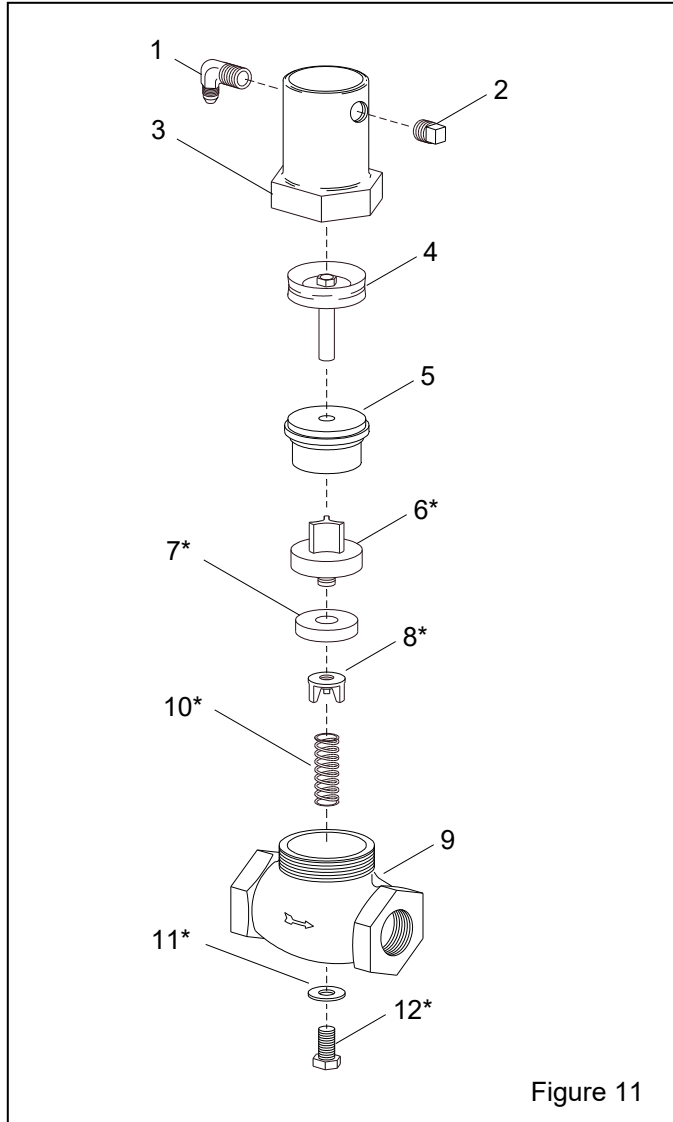

Figure 11
7.4 1" Piston Outlet Valve, Figure 11